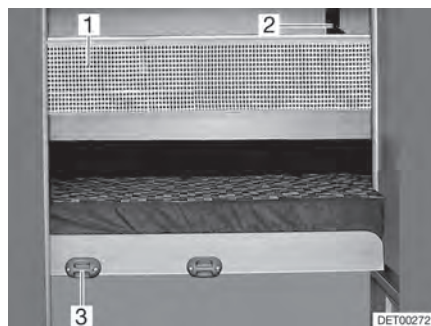

Fig. 77 Safety net
*Attaching:* ■ Attach the access ladder with the rails to the holder (Fig. 77,3) on the panel.
**Safety net** The safety net (Fig. 77,1) is stored as standard between the mattress and slatted frame. Do not use the safety net until the person is already in bed.
*Setting up:* ■ Fasten the retaining straps (Fig. 77,2) to the holders on the ceiling.